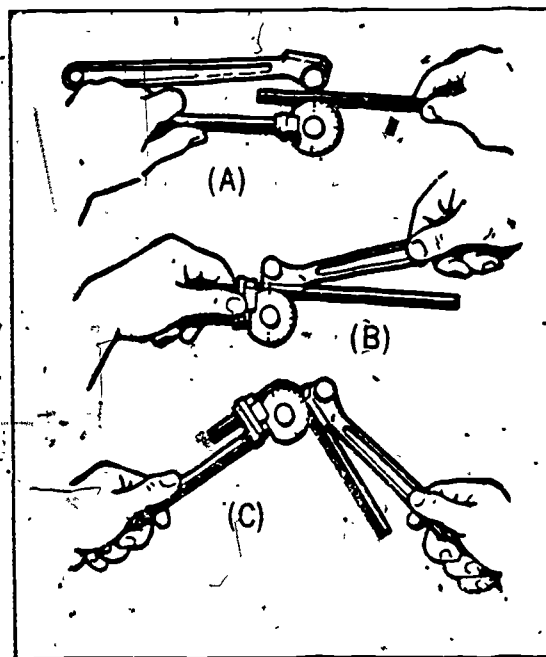

Figure 3-4. Bending tubing with a tube bender.
d. Bending tubing with tube benders. The tube benders are considered the most practical way to bend copper tubing. Benders for soft copper tubing are manufactured in many different sizes and types. The proper method for using the tube bender is illustrated in figure 3-4. When you place tubing in the bender, raise the right handle of the bender as far as it will go so that it rests in a horizontal position, as shown in figure 3-4, A. Raise the clip and place the tubing in the space between the handle slide block and the bending form. Now, place the clip over the tubing and turn the
handle slide bar about its pin and to the right, as shown in figure 3-4,B. Note that the zero mark on the bending form will coincide with the mark on the slide bar. Next, continue to turn the handle to the right (clockwise), as shown in figure 3-4,C, until the tubing is bent to the desired angle. You may make bends of any angle up to 180° with the tube bender.